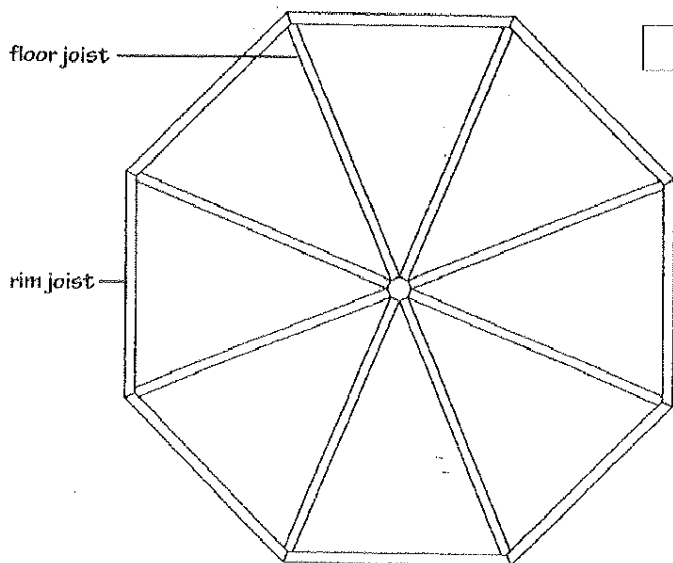

FIGURE B3
3. Put the 8 long floor joists into place. The bevelled or pointed end of the long floor joists fits into the angle formed by the rim joists, as shown in **Figure B3**.